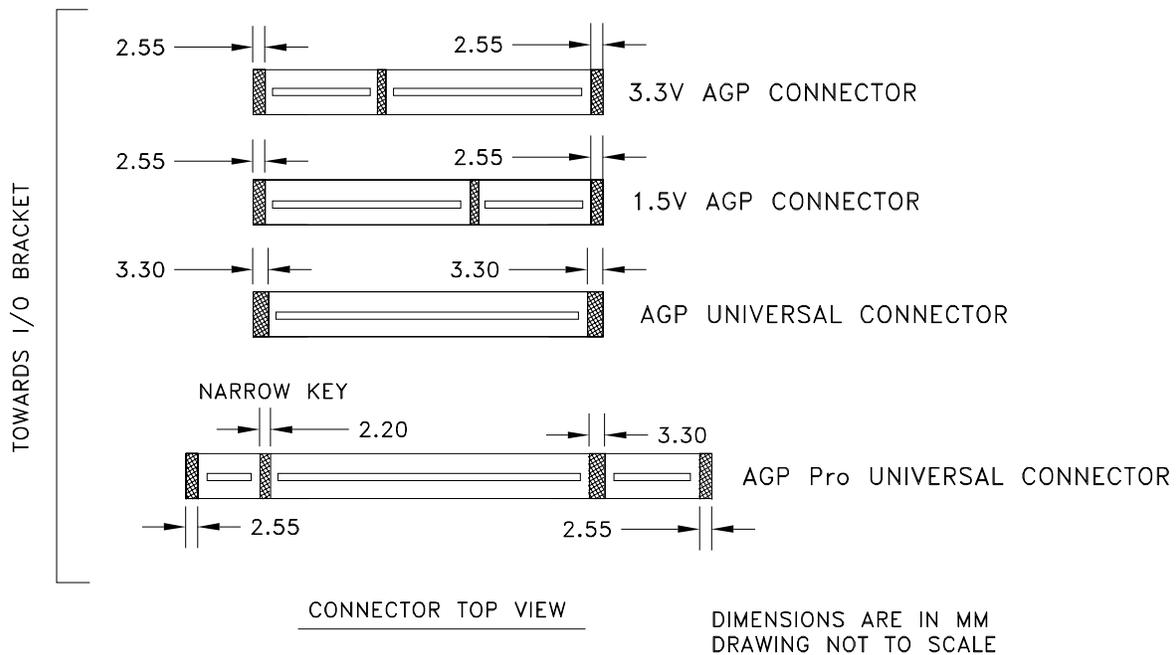

Figure 2-5: A.G.P. Pro Key Dimensions
A.G.P. Pro add-in cards will not fit into systems designed with existing A.G.P. connectors. This is ensured by selecting a narrower key for A.G.P. Pro connectors as compared to end housing width on A.G.P. connectors as illustrated in Figure 2-5. The width of the key on the side closer to the I/O bracket is 2.20 mm for A.G.P. Pro connectors. The corresponding width of the end housing for 3.3 V and 1.5 V A.G.P. connectors is 2.55 mm. The width of the end housing for the Universal A.G.P. connector is 3.30 mm. This ensures that A.G.P. Pro add-in cards designed to the 2.20 mm key will not fit into the existing A.G.P. connectors and cause system failures.
Figure 2-5 shows an A.G.P. Pro connector based on extending the Universal A.G.P. connector. If an A.G.P. Pro connector is built by extending the 3.3 V or 1.5 V A.G.P. connectors, the width of the keys must remain the same as on the A.G.P. Pro connector. The width of the keys is fixed at 2.20 mm on one end and 3.30 mm on the other end.